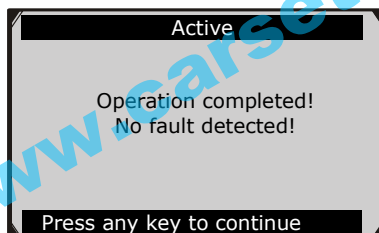

Figure 8.23
- 2) In the Active menu, use the **UP/DOWN** button to select the desired actuator to begin test. If the selected actuator works correctly, the tool will display a confirmation message as below (Figure 8.23). Otherwise, it will display a message to remind user of a problem. After you exit the diagnosis program, please repair the problem immediately.